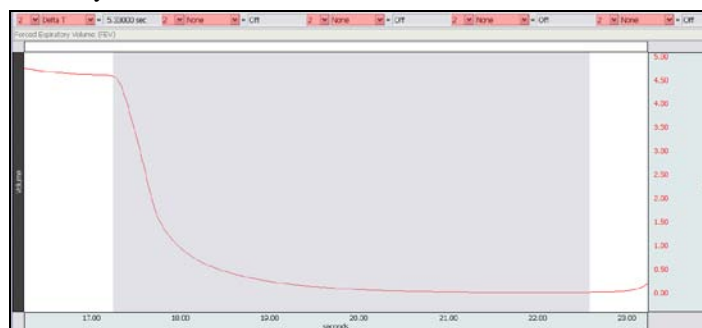

Fig. 13.16 Selected area for maximal exhale
- Use the I-beam cursor to select the area of from beginning of maximal expiration to the end of maximal expiration. At least three seconds must be selected (Fig. 13.16).